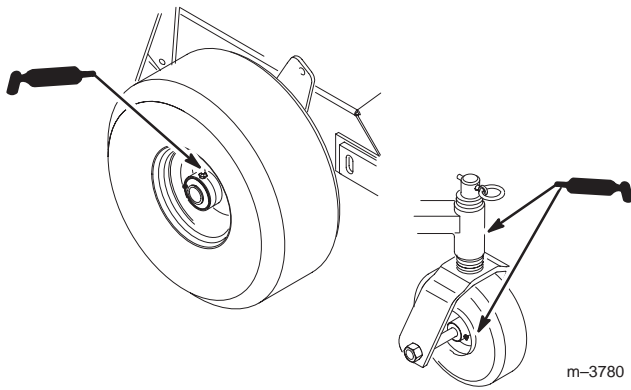

Figure 38
1. Lubricate the drive and caster wheel bearings and front spindles (Fig. 38). Lubricate every 8 hours.